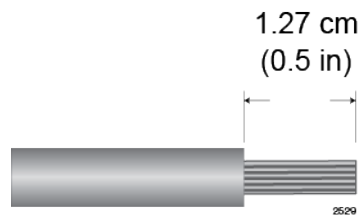

Figure 144. Stripping the Power Wires
1. Prepare adequate lengths of two stranded 8 AWG power wires by stripping them as shown in Figure 144.